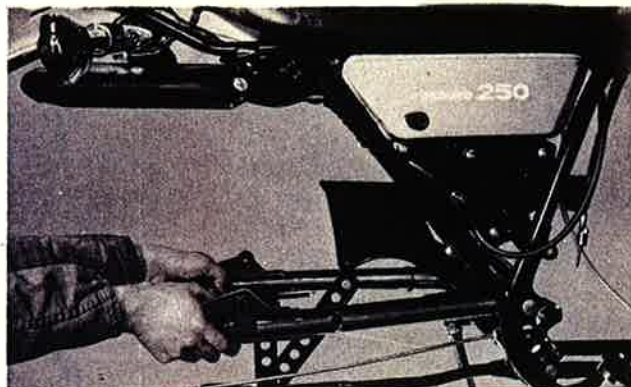

Fig. 5-8-1
1. With rear wheel and shock absorbers removed, grasp the ends of the arm and move from right to left to check for freeplay. (Fig. 5-8-1)